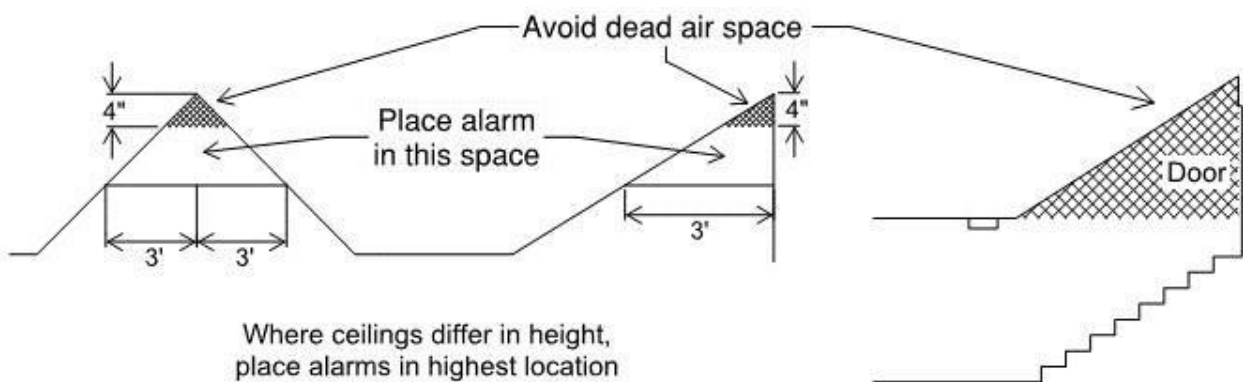
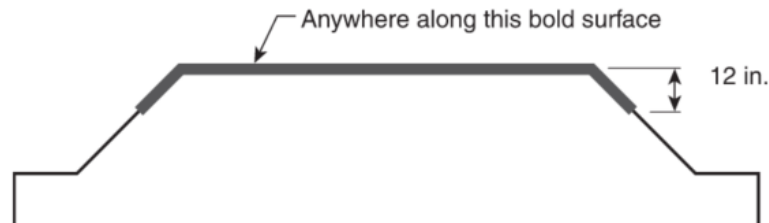

Figure 1: Smoke Alarms and Smoke Detectors in Peaked/Sloped Ceilings
Figure 2: Coffered ceilings or ceilings with soffits.
- Alarms and detectors in a **peaked ceiling** must be within 3 feet horizontally and no closer than 4 inches vertically to the peak. Avoid placing alarms in **dead air spaces**; refer to Figure 1. (NFPA 72 29.11.3.1)
- Alarms and detectors mounted on a **sloped ceiling** having a rise greater than 1-foot in 8-feet horizontally (1:8) shall be located within 36-inches of the high side of the ceiling, but not closer than 4-inches from the adjoining wall surface. Refer to Figure 1. (NFPA 72 29.11.3.2)
- Where **stairs** lead to other occupiable levels, alarms and detectors shall be located so that smoke rising in the stairway cannot be prevented from reaching the alarm or detector by an intervening door or obstructions. For stairways leading up from a basement, alarms and detectors shall be located on the **basement ceiling** near the entry to the stairs. Refer to Figure 1. (NFPA 72 29.11.3.4 (10), (11))
- Alarms and detectors installed in rooms with **joists or beams** shall comply with NFPA 72 17.7.3.2.4 and 17.6.3. (NFPA 72 29.11.3.4 (13), (14))
- For **coffered ceilings (and ceilings with soffits)**, alarms and detectors shall be installed on the highest portion of the ceiling or on the sloped portion of the ceiling within 12 inches vertically down from the highest point. Refer to Figure 2. Provide the manufacturer's installation instructions to confirm the maximum horizontal distance from the alarm or detector. (NFPA 72 29.11.3.4 (12))